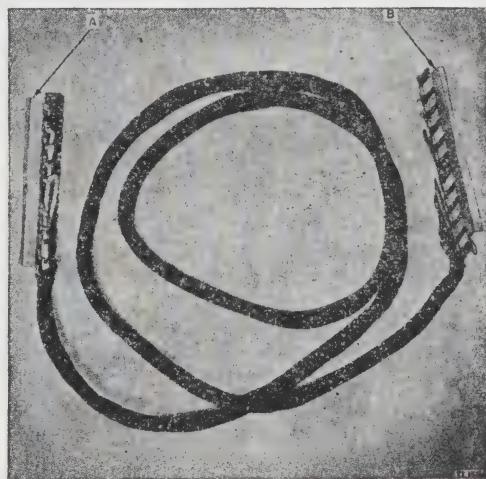

Figure 23. Connector cable, showing masking.
(2) Terminals of connector cable (A and B, fig. 23).